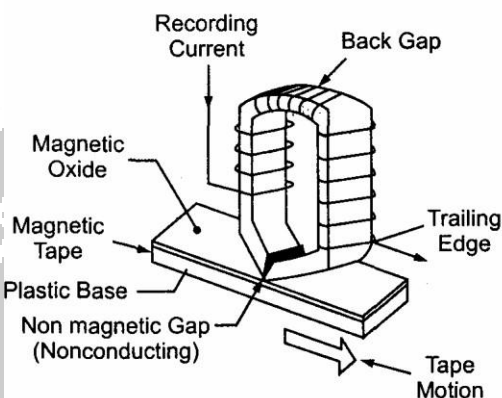

Fig 4.1 Magnetic tape-recording head
- The construction of the magnetic recording head is very much similar to the construction of a Transformer having a toroidal core with coil. It's shown in fig.4.1